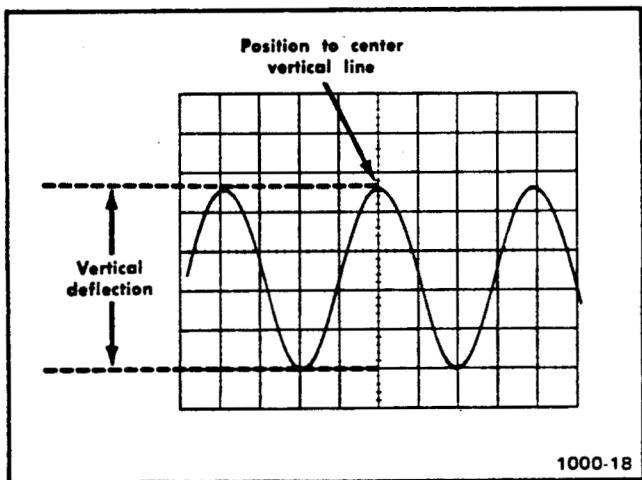

Fig. 2-3. Measuring peak-to-peak voltage of a waveform.
- Turn the channel POSITION control so that the lower portion of the waveform coincides with one of the graticule lines below the center horizontal line, and the top of the waveform is in the viewing area. Move the display with the horizontal POSITION control so that one of the upper peaks is aligned with the center vertical reference line (see Fig. 2-3).